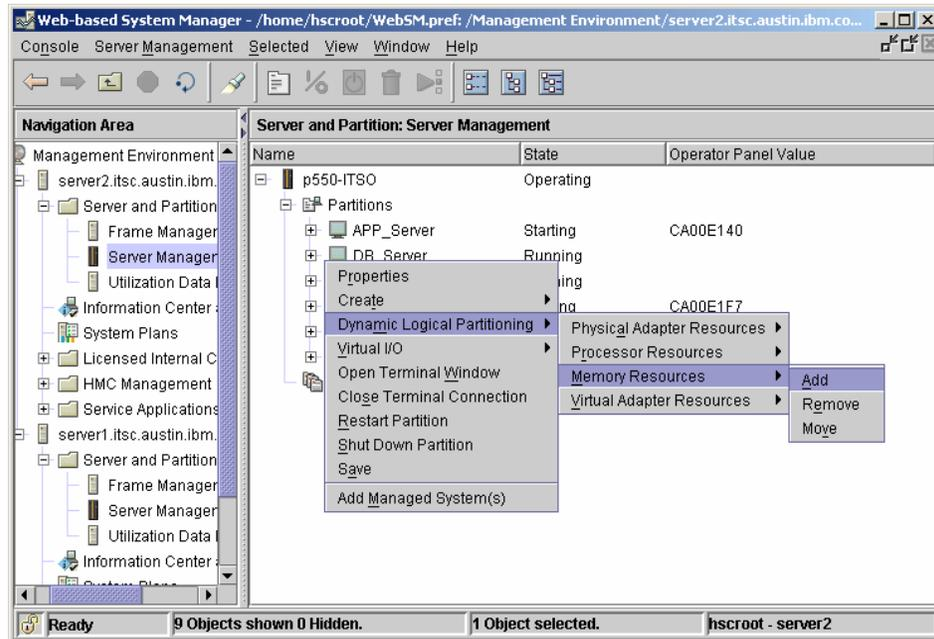

Figure 5-9 Dynamic LPAR memory operation
1. Right click the logical partition and select **Dynamic Logical Partitioning** → **Memory resources** → **Add** (see Figure 5-9).